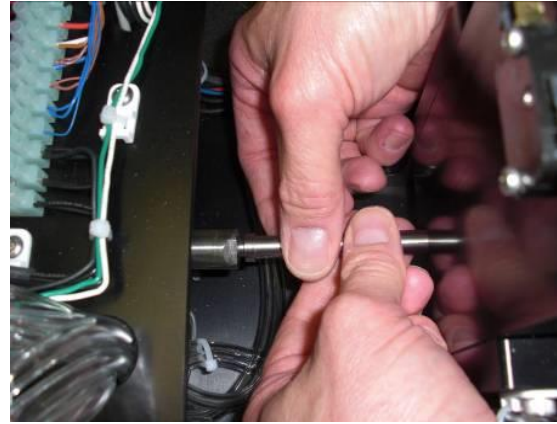

Figure 2.4.7
- Once the pin is hand-tightened, pull the pin forward exposing the cylinder. **Figure 2.4.7**